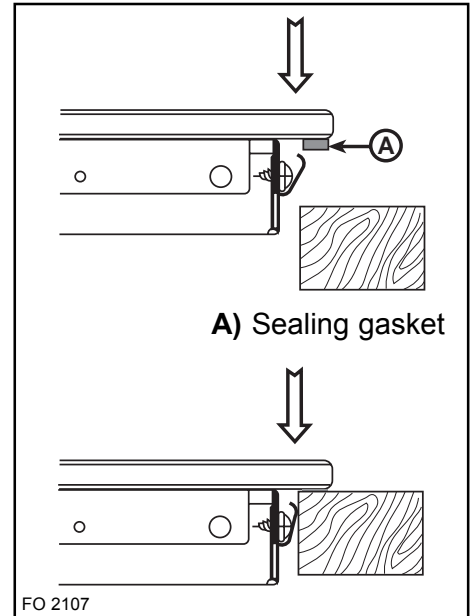

Fig. 7
- 3) Fit the hob in the cut out and push it down until the glass top and the working top make contact, as shown in figure 7.